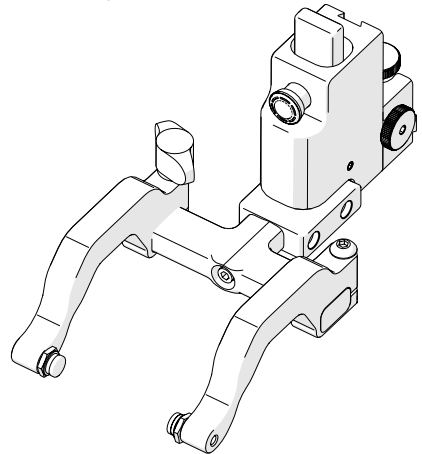

Fig. 186 - 90° probe holder positioning
2. Orient the yoke to the front of the probe holder and screw the yoke into the threaded hole provided (Fig. 186).